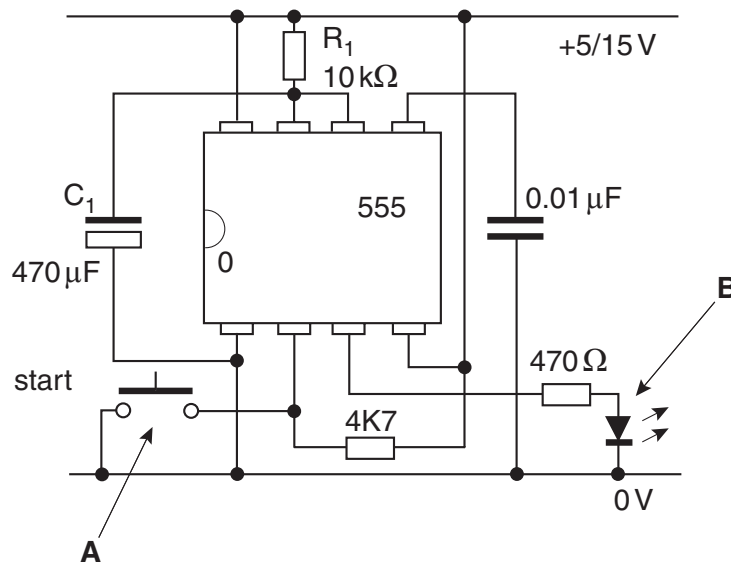

Fig. 7
- 2 (a) Fig. 7 shows a circuit for an electronic timer to be used in a photographic darkroom.